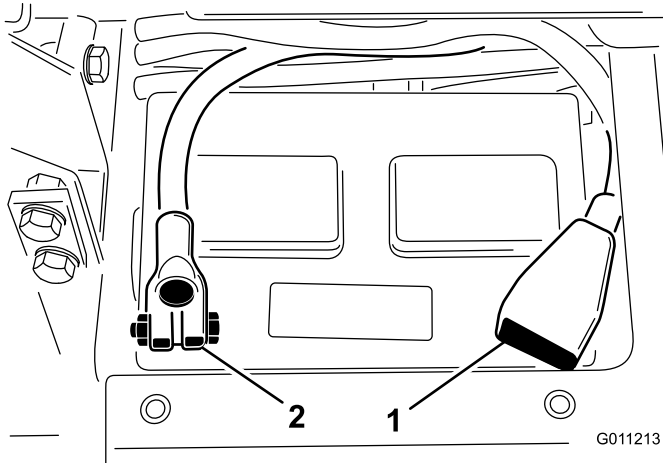

Figure 5
- Install the positive cable (red) to the positive (+) terminal and the negative cable (black) to the negative (−) terminal of the battery and secure them with bolts and nuts (Figure 5). Make sure that the positive (+) terminal is all of the way onto the post and the cable is positioned snug to the battery. The cable must not contact the battery cover.